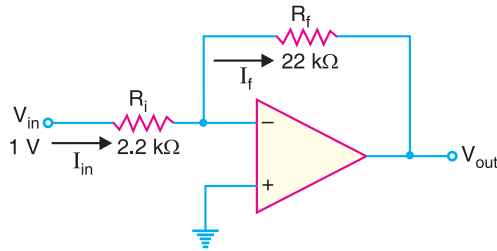

Fig. 25.105
12. Determine the approximate values of (i) I_{in} (ii) I_f (iii) V_{out} (iv) closed-loop voltage gain for the circuit in Fig. 25.105. [(i) 455 μA (ii) 455 μA (iii) -10V (iv) -10]